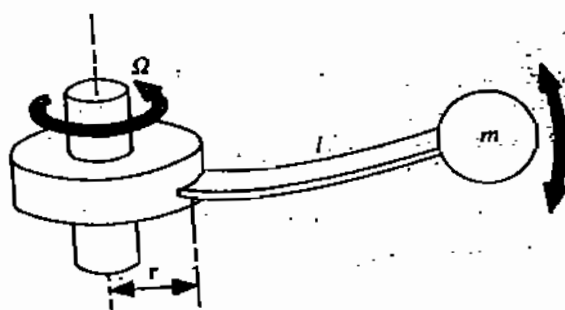

Figure-2.
(b) Schematic diagram of a rotating leaf spring is shown in figure-2, where the spring is modeled as a cantilevered beam with an end mass. The rotor rotates at an angular speed Ω . Ignoring the mass of the beam, find the natural frequency of oscillation of the spring. Assume that the slope of the beam due to bending is small. (5)